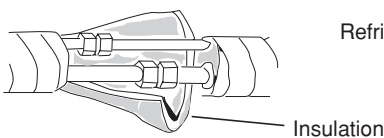
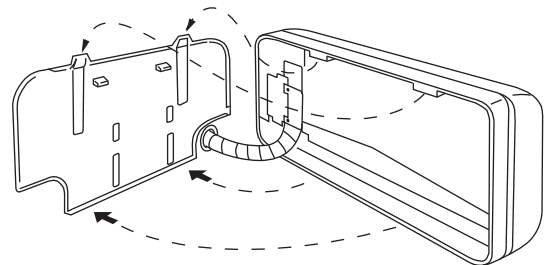

Fig. 37a
Fig. 36
- (2) Push the wiring, refrigerant tubing, and drain hose through the hole in the wall. Adjust the indoor unit so it is securely seated on the rear panel. (Fig. 36)
- (3) Carefully bend the tubing (if necessary) to run along the wall in the direction of the outdoor unit and then tape as far as the fittings. (See Caution on page 21.) The drain hose should come straight down the wall to a point where water runoff won't stain the wall.
- (4) Connect the refrigerant tubing to the outdoor unit. (After performing a leak test on the connecting part, insulate it with the tubing insulation. (Fig. 37a)) Also, refer to Section 5-4. Connecting Tubing between Indoor and Outdoor Units.